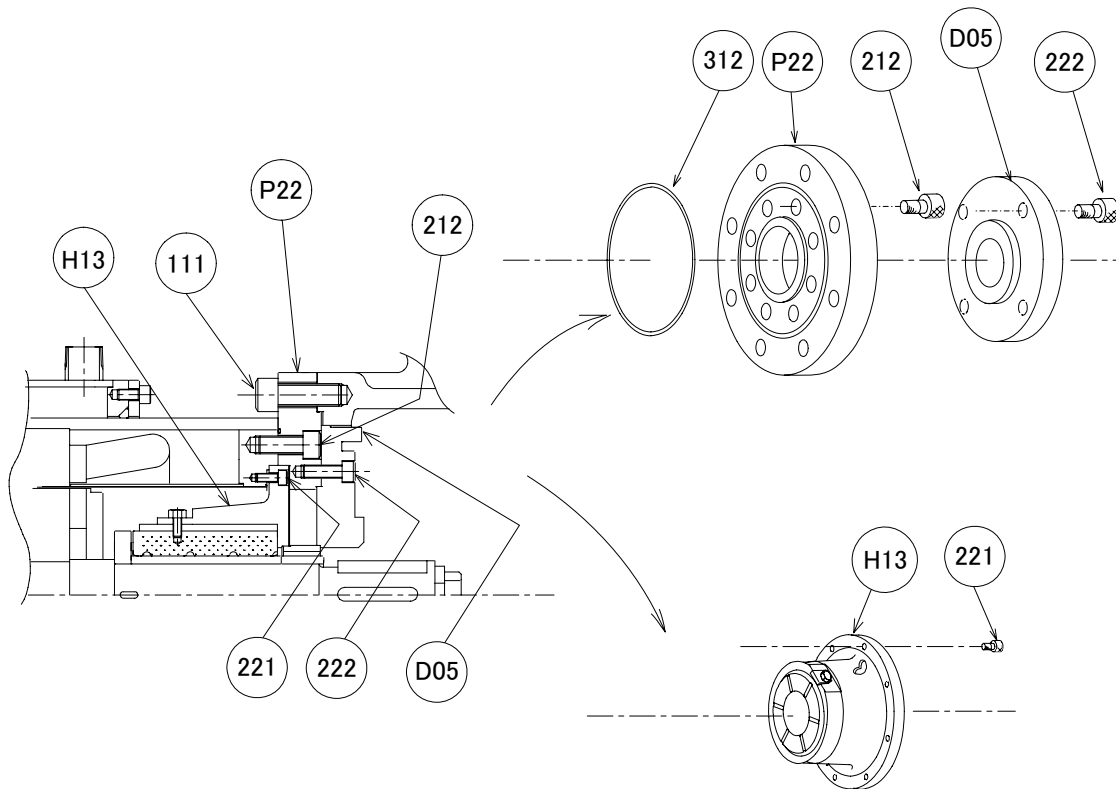

Fig.4-9 Removal of Liner Disk, Adapter Plate and FB Housing
(9) Removal of liner disk, adapter plate and FB housing (Refer to Fig.4-9)
- ① Remove bolt (222), and liner disk (D05) comes off.
- ② Remove bolt (212) and remove adapter plate (P22).